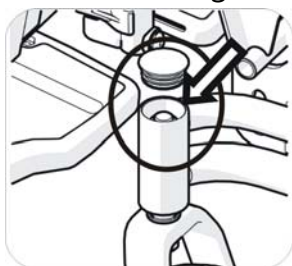

Figure 7-1
7.6.1 Caster Bracket (see figures 7-1)